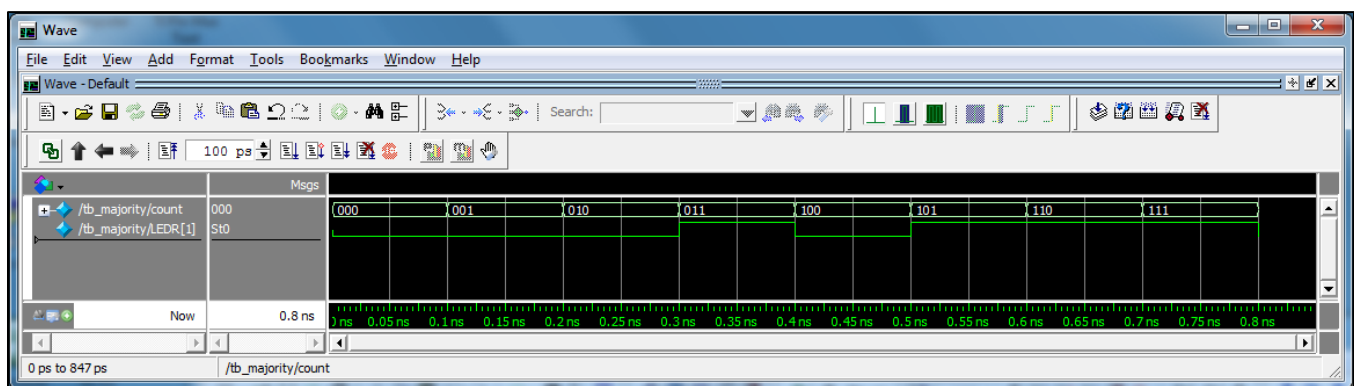

Figure 7. Functional Simulation Waveform for Majority Gate Design
9. You can run the simulation by selecting Simulate > Run > Run 100 or by simply typing run in the command window. This will run your simulation for 100 time units, which is 100 ps by default. See Figure 7 for a screenshot of the Wave window after simulating for 800 ps.